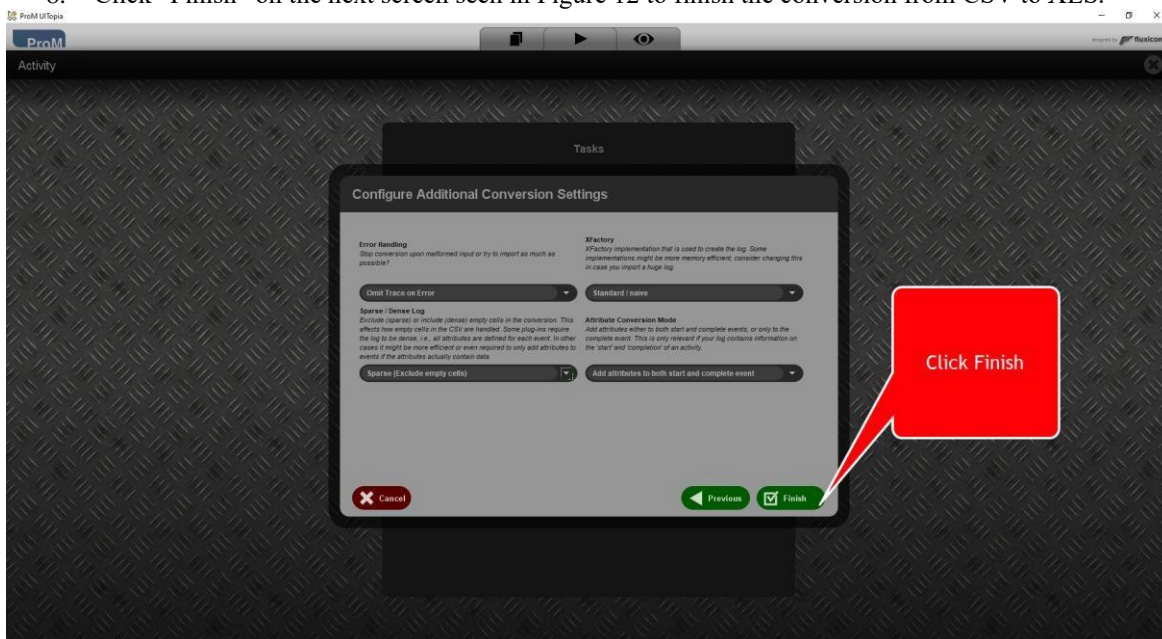

Figure 12 – Image showing how to finish conversion from CSV to XES.
8. Click “Finish” on the next screen seen in Figure 12 to finish the conversion from CSV to XES.